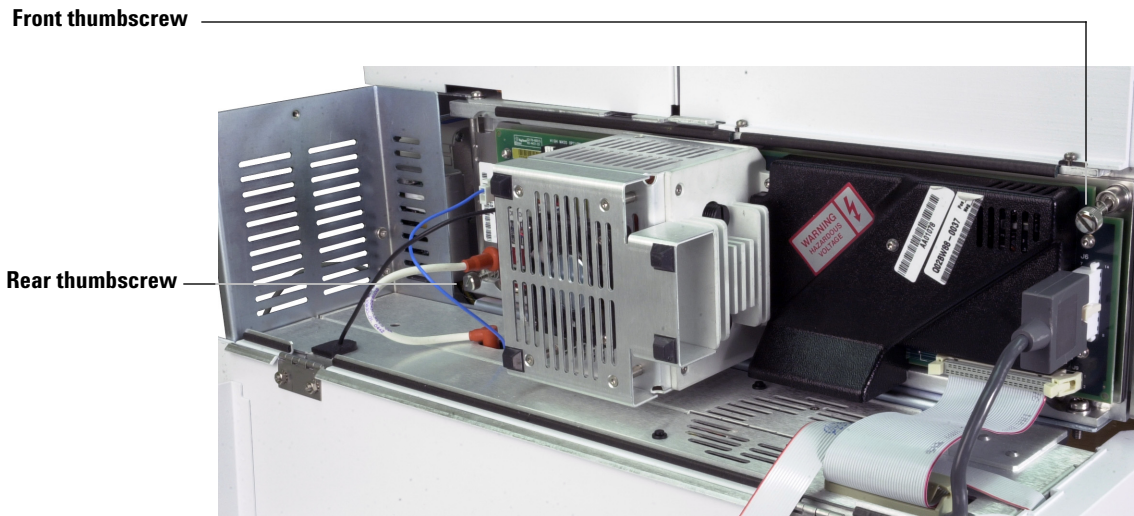

Figure 6 Side plate thumbscrews
- 8 Finger-tighten the side plate thumbscrews (Figure 6).